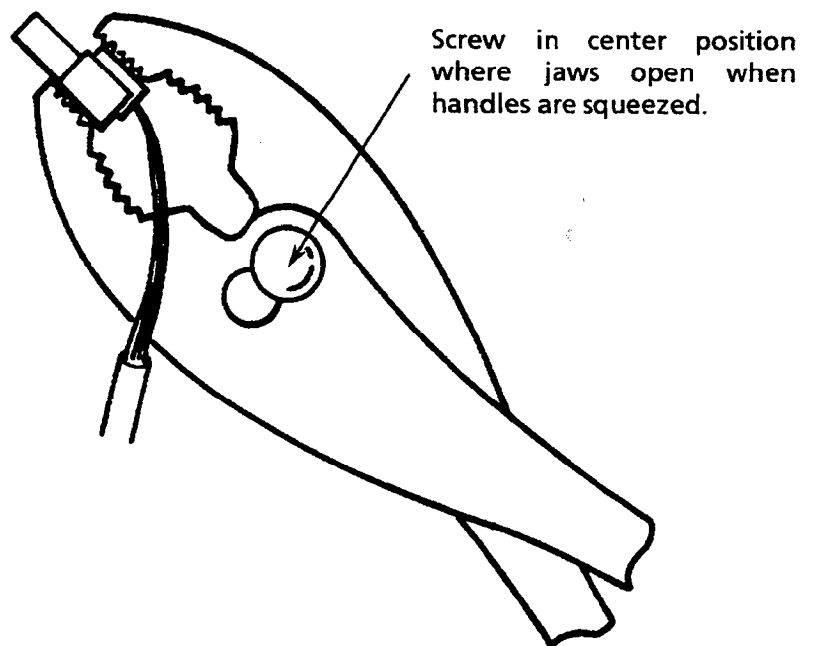

Figure 3-115 Positioning the Screw of the Pliers
**Note:** If sufficient pressure cannot be applied when the screw of the pliers is in the center position, change the position of the screw that allows the jaws of the pliers to close. Be careful when squeezing the hands of the pliers; excessive pressure could cause damage to the connector. Refer to Figure 3-115 - Positioning the Screw of the Pliers.